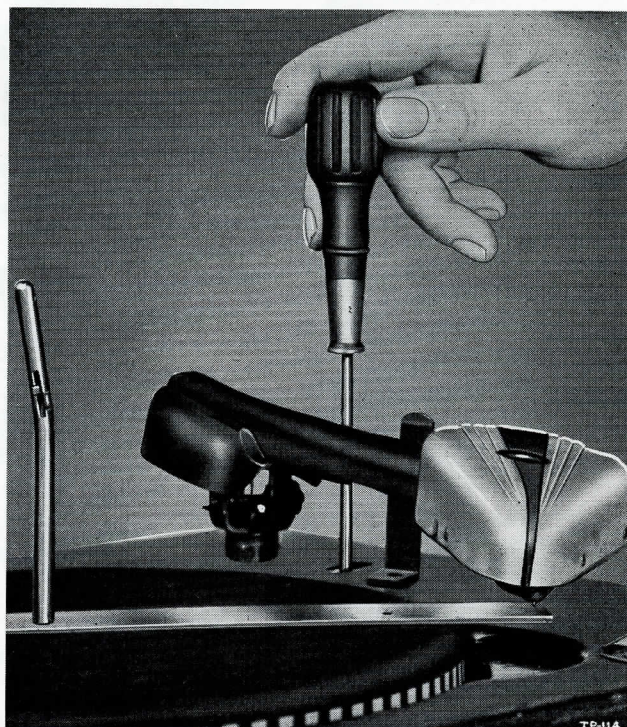

FIGURE 29. INDEXING ADJUSTMENT—USING MARKED SHELF GAUGE
16. Turn back the 10" record shelf and slip the hole nearest the end, marked 10, over the spindle, allowing it to rest on the turntable, as shown in figure 29.
18. Move the shelf gauge directly under the jewel. Turn the adjustment screw, as shown in figure 29, until the jewel is directly above the index line on the gauge.
19. If the indexing adjustment fails to position the jewel over the index line on the shelf gauge, as shown in figure 29, turn the adjusting screw to the half way po-